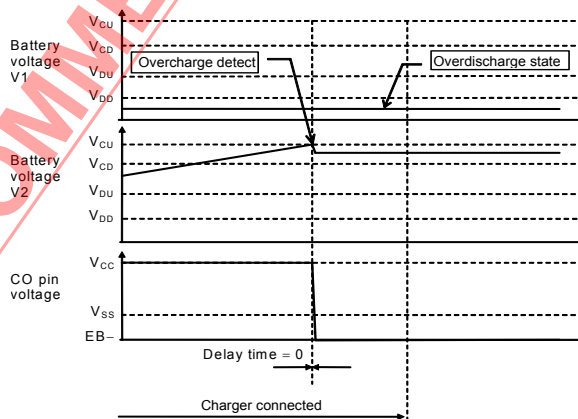

Figure 10
- When one of the battery voltages is overdischarge detection voltage ($V_{DD1,2}$) or lower and the other one becomes higher than the overcharge detection voltage ($V_{CU1,2}$), the IC detects the overcharge without the overcharge detection delay time (t_{CU}) (refer to the **Figure 10**).